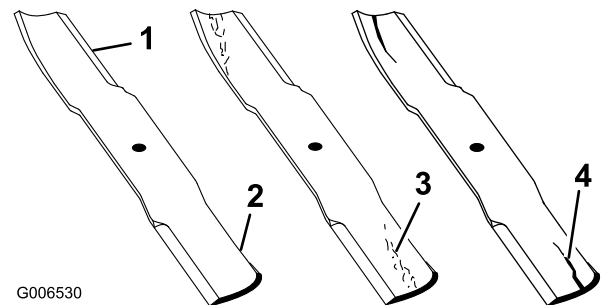

Figure 46
1. Inspect the cutting edges (Figure 46). If the edges are not sharp or have nicks, remove and sharpen the blades. Refer to Sharpening the Blades.
2. Inspect the blades, especially the curved area (Figure 46). If you notice any damage, wear, or a slot forming in this area (item in Figure 46), immediately install a new blade.